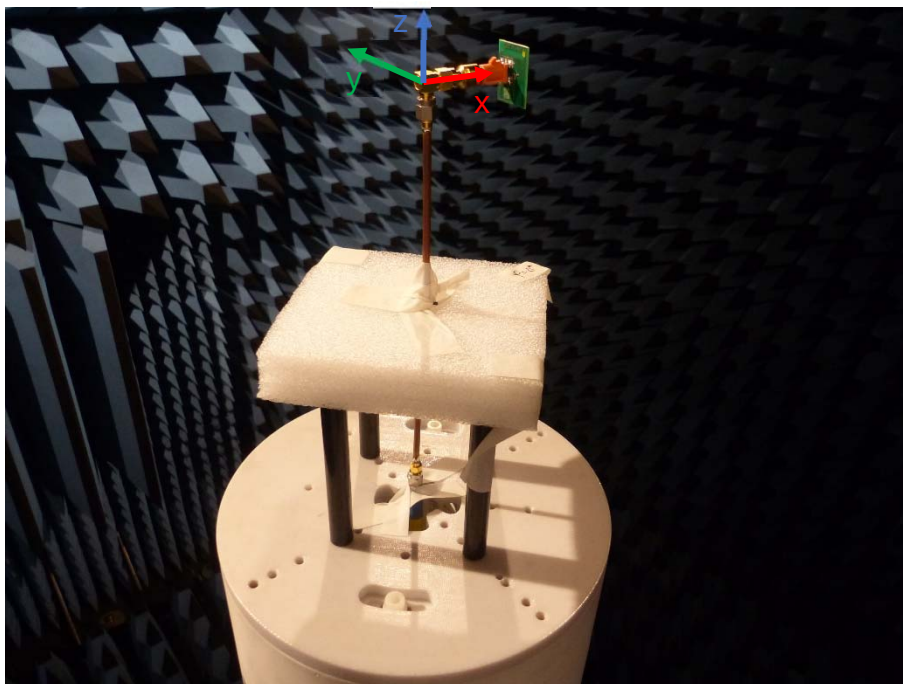

Figure 6 Measurement setup inside anechoic chamber.
*Measured in setup as indicated in Figure 6